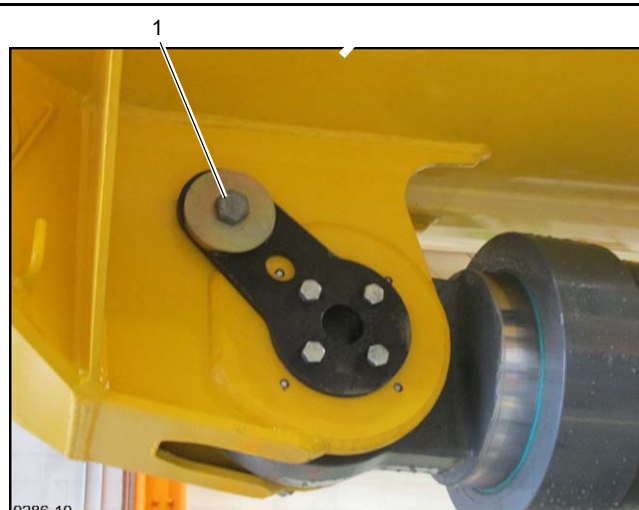

FIGURE 4-17
15. Install bolt to secure pin (1, Figure 4-17).